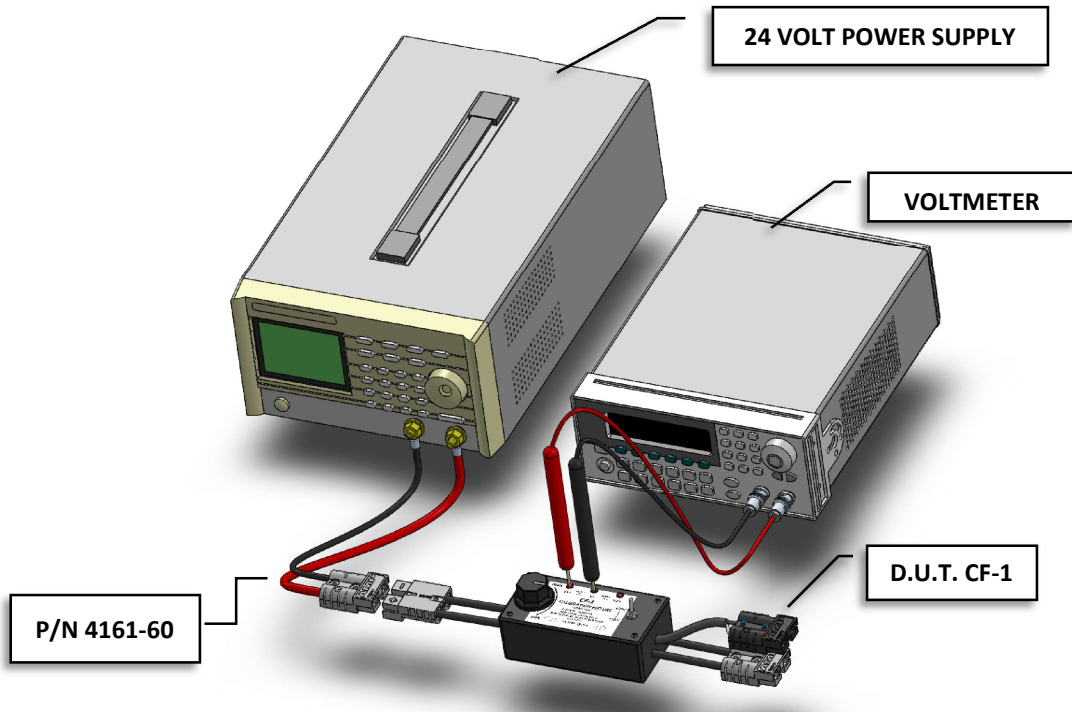

Figure 1
4. Connect the calibrated volt meter input leads to the CF-1 test jacks labeled V1+ (RED) and V- (BLACK). Set the voltmeter to read DC volts. See Figure1,2